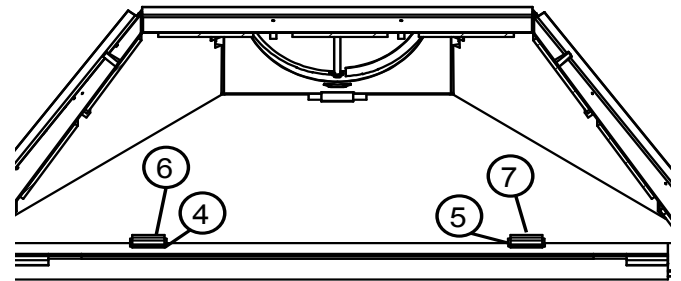

FIG.2
- B.** Remove screws from lower brackets and remove front lower panel. Then remove screws from upper brackets and remove front upper panel **(FIG.2)**
E. Slide front upper panel into smoke chamber then front lower panel and install brackets. **(FIG.2)**